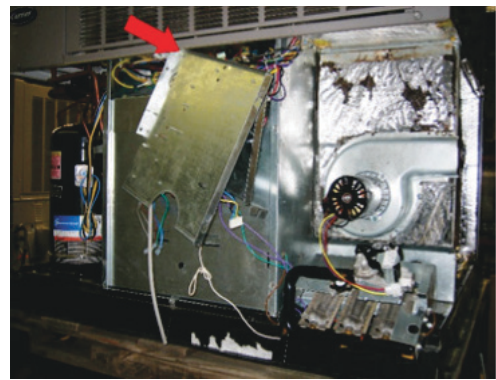

Fig. 35 – Securing Assembly to Screw Hole ^{A210079}
14. Gently pull Heat Shield / Control Panel bracket down and forward. Then rotate control panel bracket to the left. Secure assembly to screw hole on front panel with wire tie or similar fastener (Fig. 35). Use caution when moving control panel to avoid damage to controls or wire harness while moving assembly.